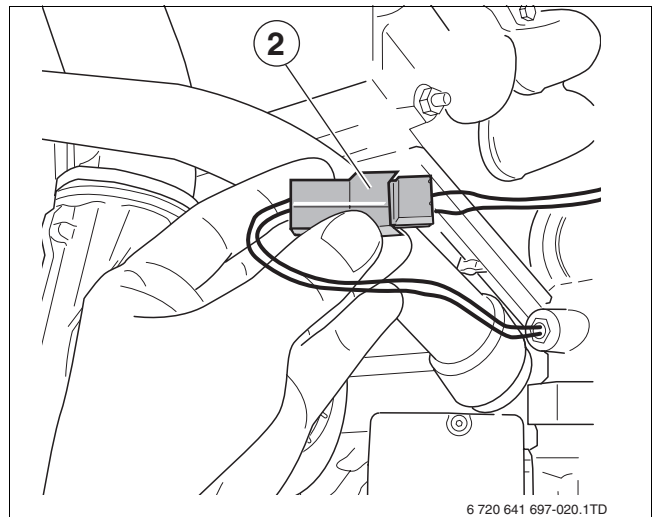

fig. 13 Disconnecting the return sensor
- ▶ Install the gas supply pipe according to figures 13 to 23 of the gas supply pipe instructions (→ fig. 1, [13]).